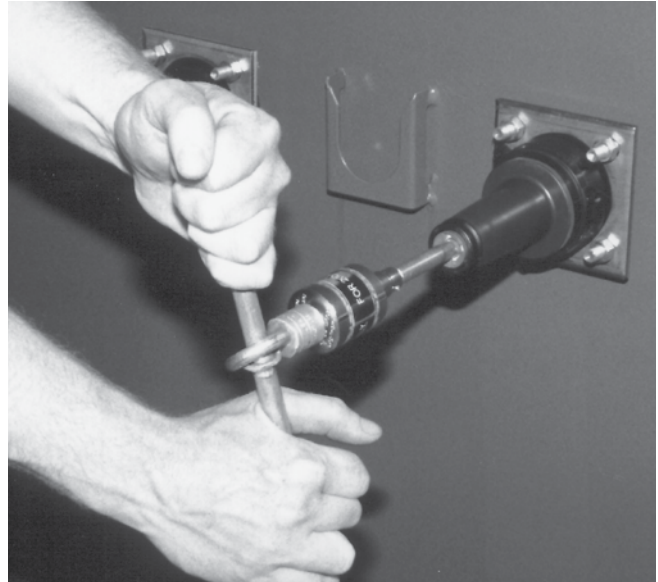

Figure 3. Insert torque tool and tighten to bushing well (15 kV version shown).
- Turn clockwise until torque tool makes an audible “click.” The torque tool tightens the bushing insert to approximately 15 ft-lbs. (See Figure 3.)